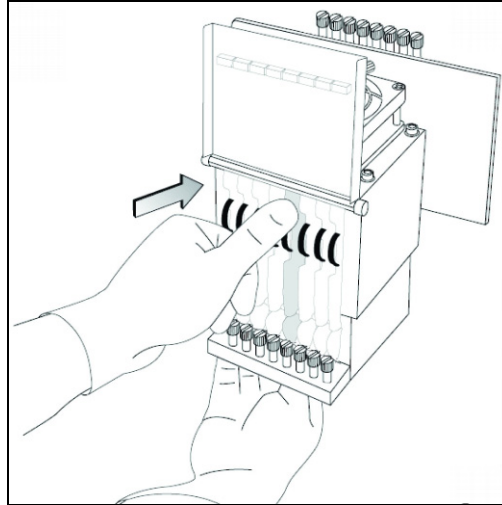

Figure 7-45: Inserting the printing-head driver card into its socket
- b. Re-insert the printing-head driver card into its socket (see figure 7-45 on page 7-30).